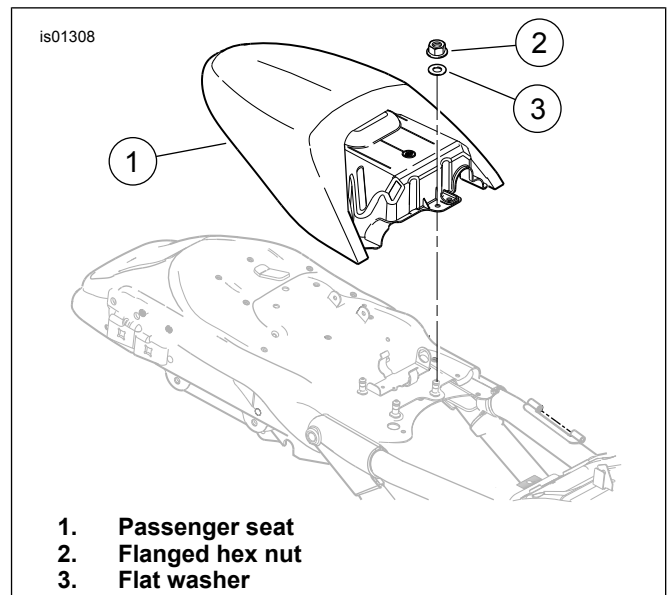

Figure 6. Remove Passenger Seat (2006-2007 VRSCR)
4. See Figure 6. Remove the flanged hex nut (2) and flat washer (3) that retain the passenger seat (1) and remove the seat.